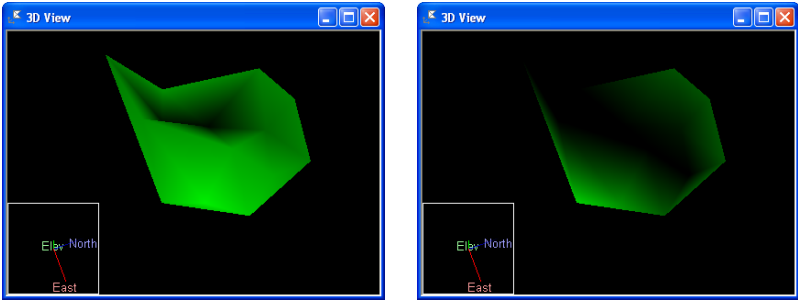

Figure 4-28. Changing the Virtual Light Source
- Use the mouse as described and hold Ctrl key to change the virtual position of the light source (Figure 4-28 on page 4-33).